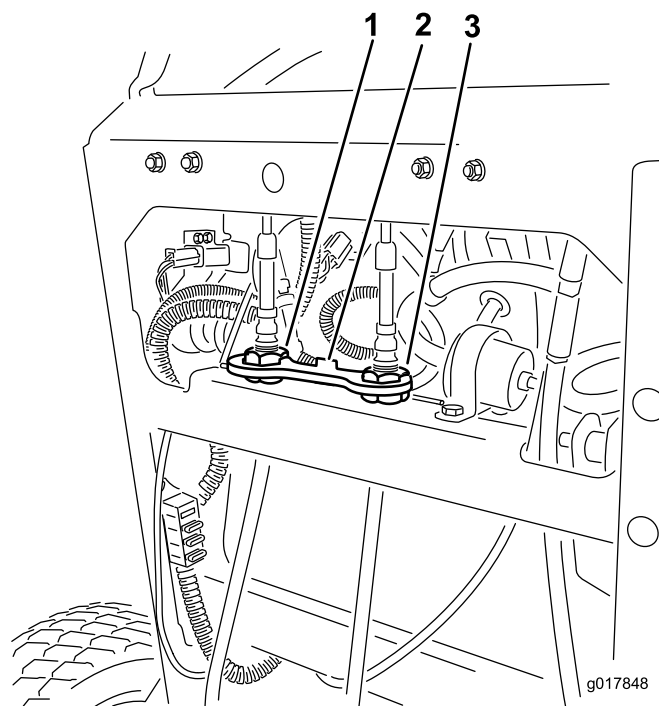

Figure 79
2. Lift and remove the cable lock securing the cable adjusting nuts (Figure 79).
6. Install the cable lock onto the cable adjusting nuts to secure the adjustment (Figure 79).